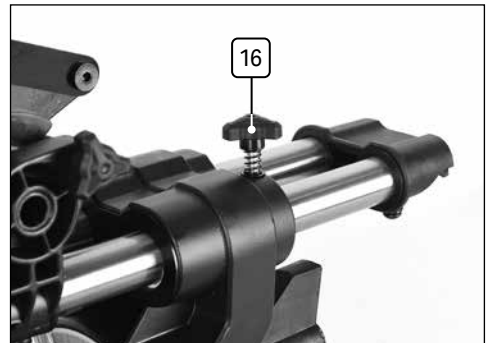

Fig. 15
6.14 Sliding Lock – Fig.15
- For most operations the sliding feature will be required to allow full capacity cutting, however it is possible to lock the sliding bars by tightening slide lock (16).